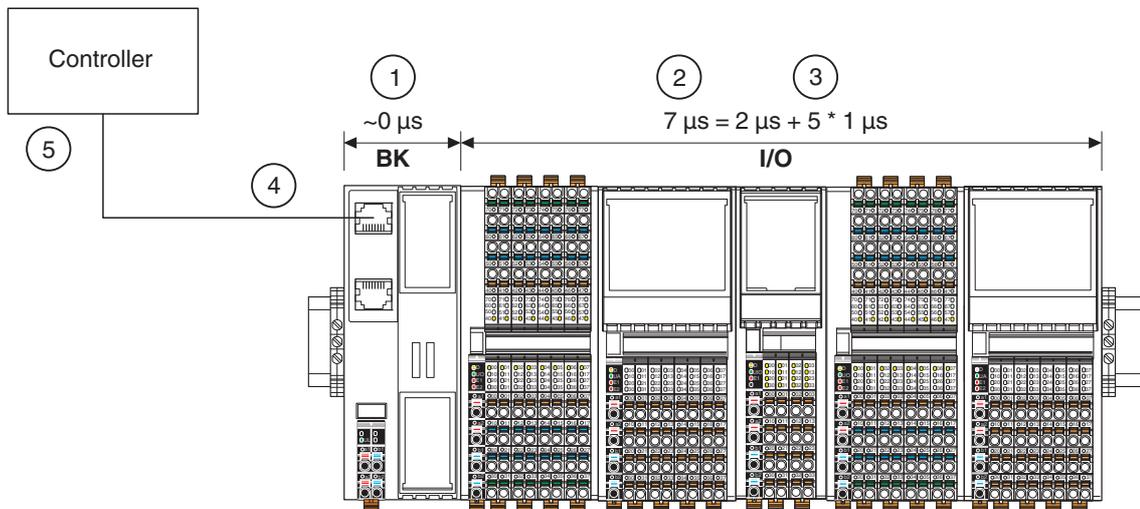

Fig. 13-1 Response times of the overall system
- The time for copying to the bus heads (bus coupler or controller; 1 in Fig. 13-1)
- The cycle time of the local bus (2)
- The conversion time in the I/O modules (3)
- The update time of the higher-level network (4)
- The processing time (cycle time) in the controller (5)